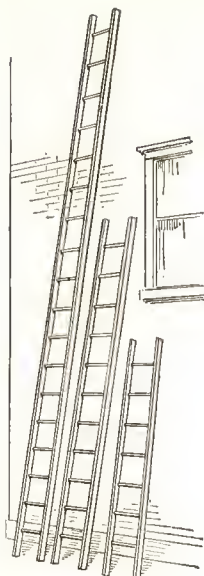

FIG. 26
**Long Ladders:** These are of the common type as shown in Figure 26. They are used to reach most areas to be painted on exteriors of buildings. Practically all surfaces on one and one and one-half story bungalows and cottages are reached with these ladders without using a swing stage. Also they are often adequate for two-story houses. Of course, one can work faster from planks or platforms on large surfaces; so time is saved by not using long ladders often, even where they reach easily.